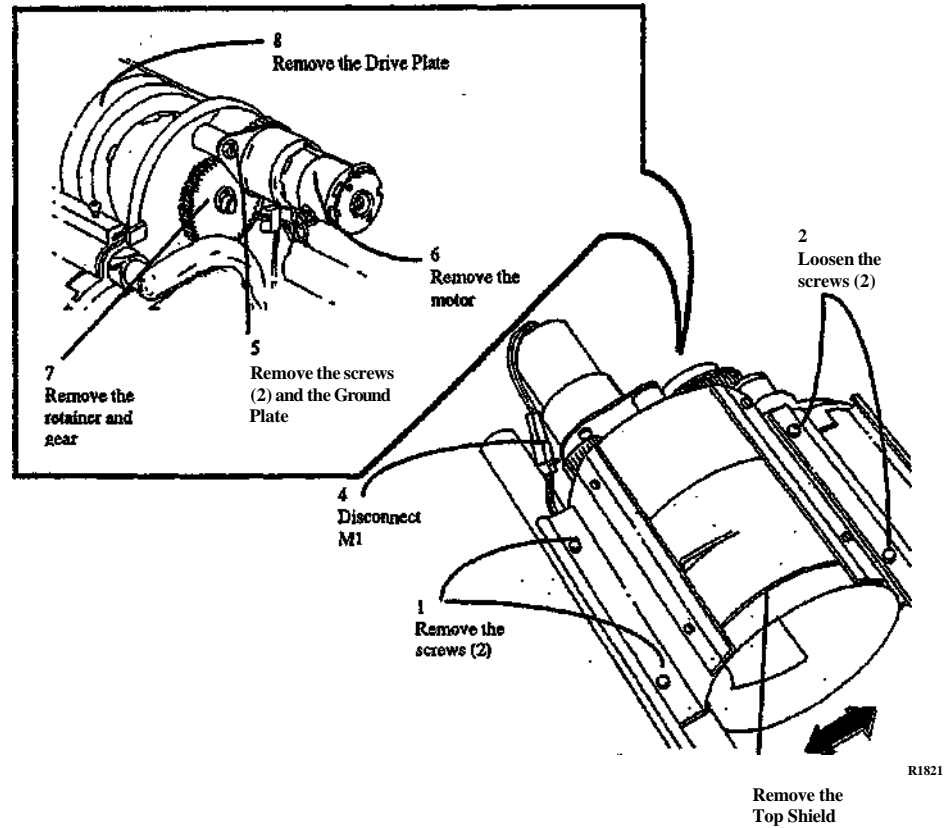

Figure 1. Removing the Cartridge Drive Plate
2. (Figure 1): Remove the Cartridge Drive Plate.